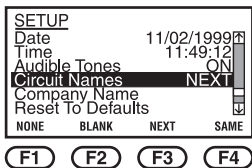

Figure 3-4. Circuit naming.
3. Press the **F1** button to select **NONE**, the **F2** button to select **BLANK**, the **F3** button to select **NEXT**, and the **F4** button to select **SAME**. See Figure 3-4.